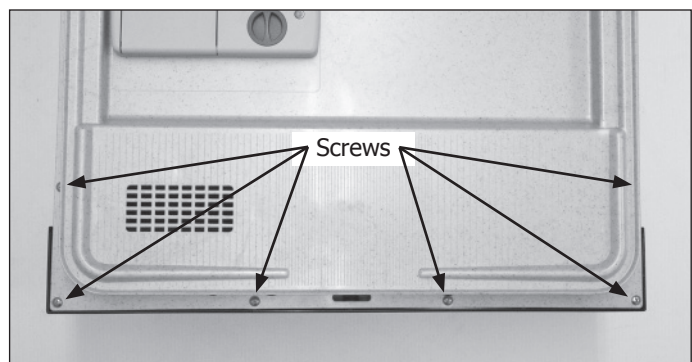

Figure 4-4.
3. Extract the six Phillips head screws securing the console to inner door assembly. Hold the console as the last screws are removed to prevent strain on the wire harness connections. (See Figure 4-4)